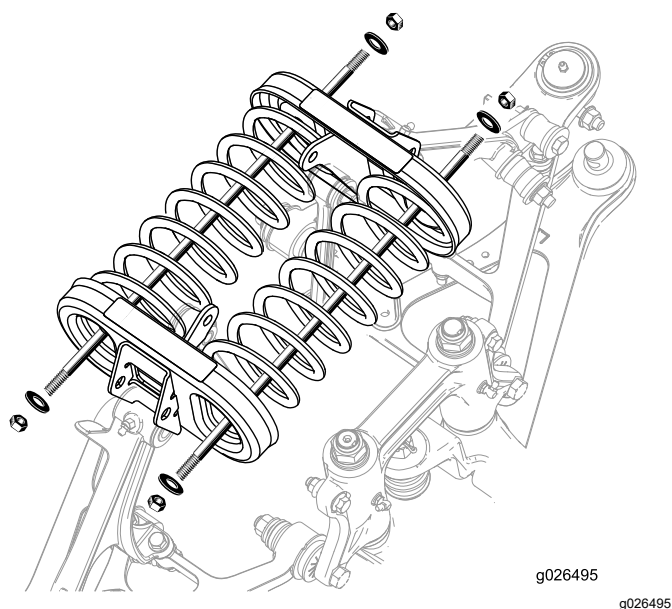

Figure 19
3. Install the nuts and washers on both ends of the rod (Figure 19).
4. Tighten 1 nut on each rod to secure the springs (Figure 19).